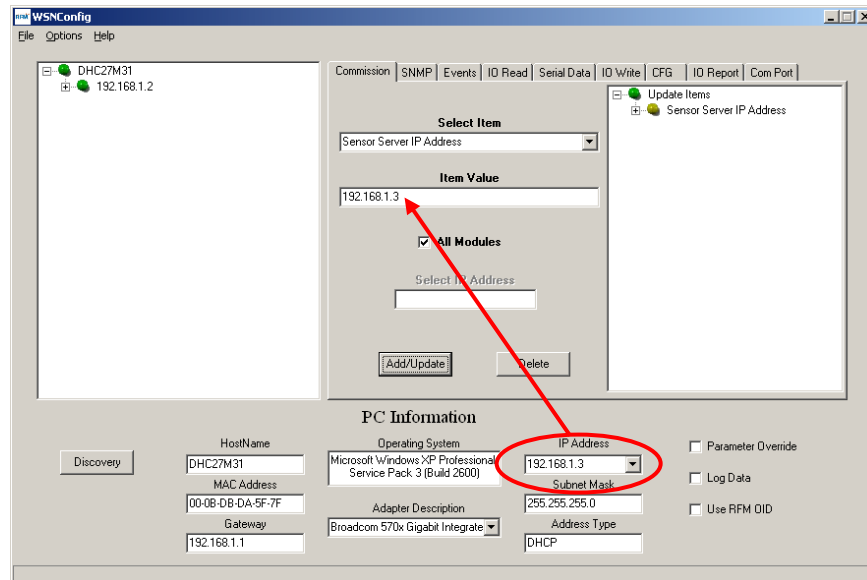
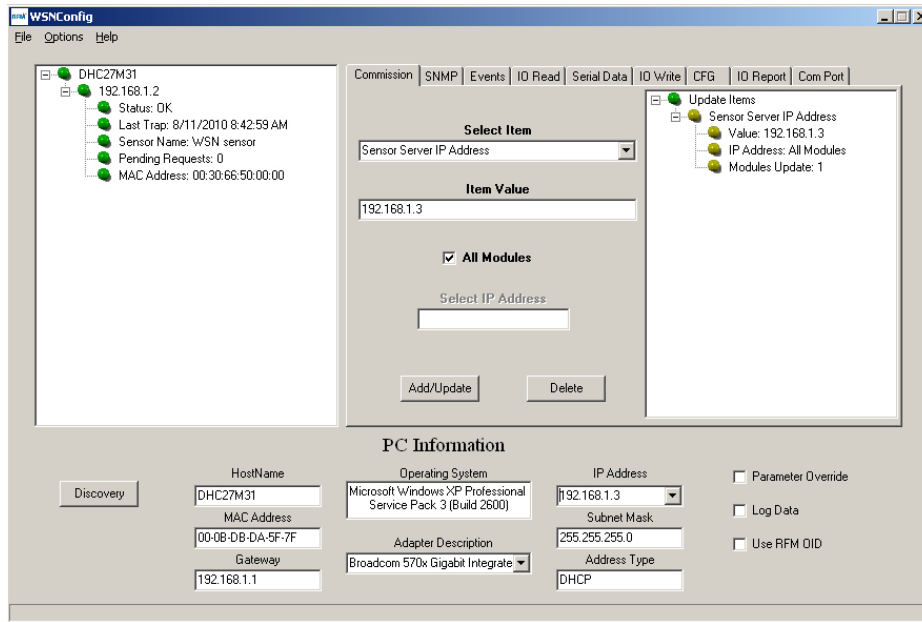

Figure 8.3.4
Figure 8.6.14
7. Select *Sensor Server IP Address* from the *Select Item* drop-down box on the WSNConfig.exe *Commission* tab. Enter the IP Address from the *PC Information* area in the *Item Value* text box. Then click the *Add/Update* button. See Figure 8.3.4. This action configures the WSN802G module to send its periodic I/O_READ data to the PC running WSNConfig.exe.
Figure 8.6.14 shows the same *WSNConfig* main screen as Figure 8.3.4, but with the module IP address tree expanded on the left and the Sensor Sever IP Address tree expanded on the right.